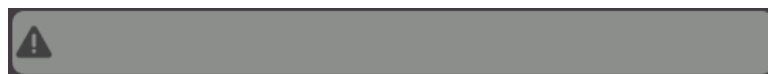

Figure 10-3 Alarm Status Button
- Alarm Status button in the system footer on all screens (refer to Figure 10-3).